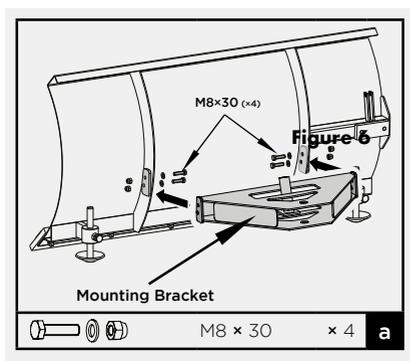

Figure 10
1. Mount the mounting bracket to the blade using M8x30 hex bolts, washers and nuts (figure 10).